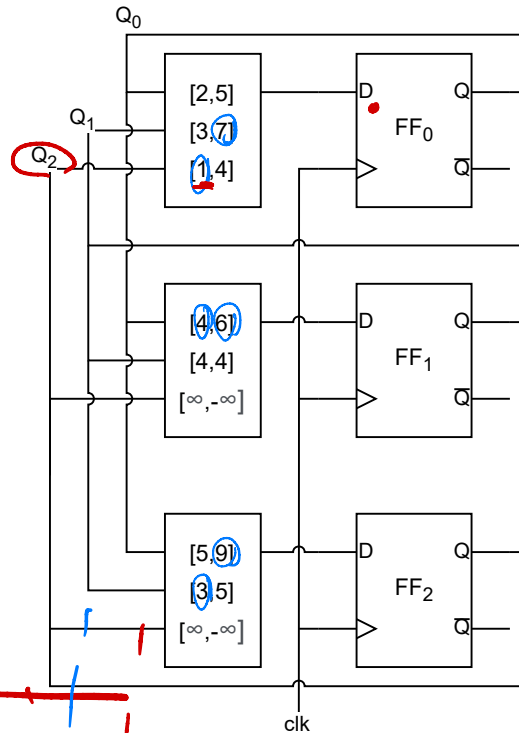

Figure 2: Circuit for problem 3
3. [25 points] *Sequential Circuit Timing Analysis 2*: The schematic diagram shown in Figure 2 displays the timing data for a sequential circuit with three edge-triggered D flip-flops. Table 3 has additional information. Each flip flop has black-box transition logic, each as a function of  $Q_2, Q_1, Q_0$ . On each block are the minimum and maximum path delays for each input in nanoseconds listed as  $[delay_{min}, delay_{max}]$ . For example the min and max path delays from  $Q_1$  to  $D_2$  are 3 and 5 ns, respectively.